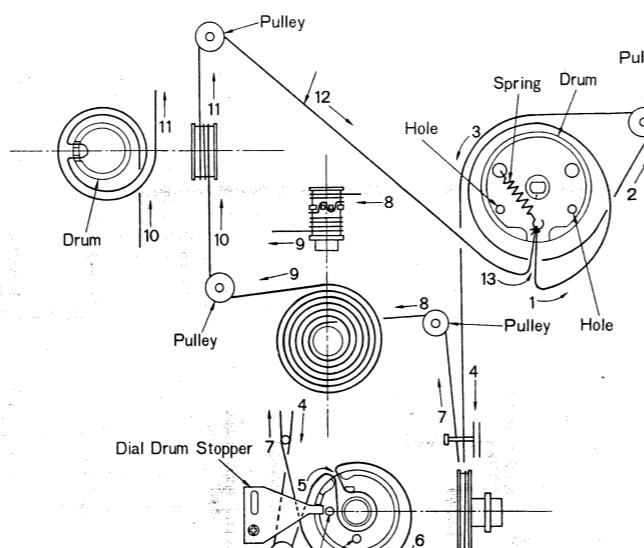

Fig. 8
- Remove dial drum stopper, as shown in fig. 8.
- Set each dial drum at the position, as shown in fig. 8.
- Insert awl into the holes for fixing dial drums, as shown in fig. 8.
- Mount dial drum stopper at the position, as shown in fig. 8.